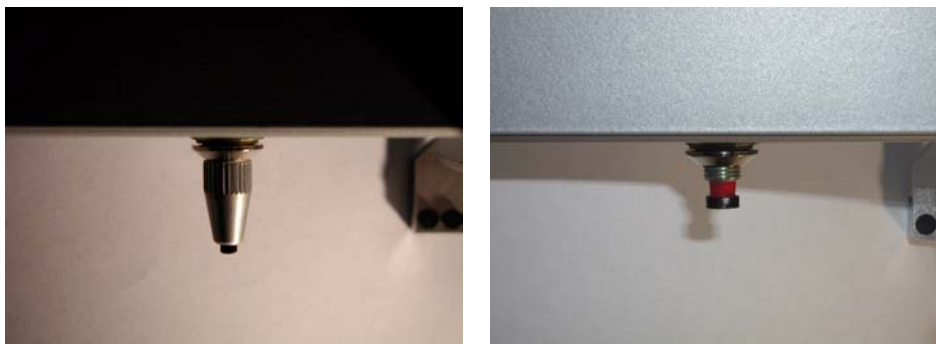

Figure 20 The button extension (left) and removed (right)
- 1 Unscrew the button extension from the underside of the gripper arm (see Figure 20).